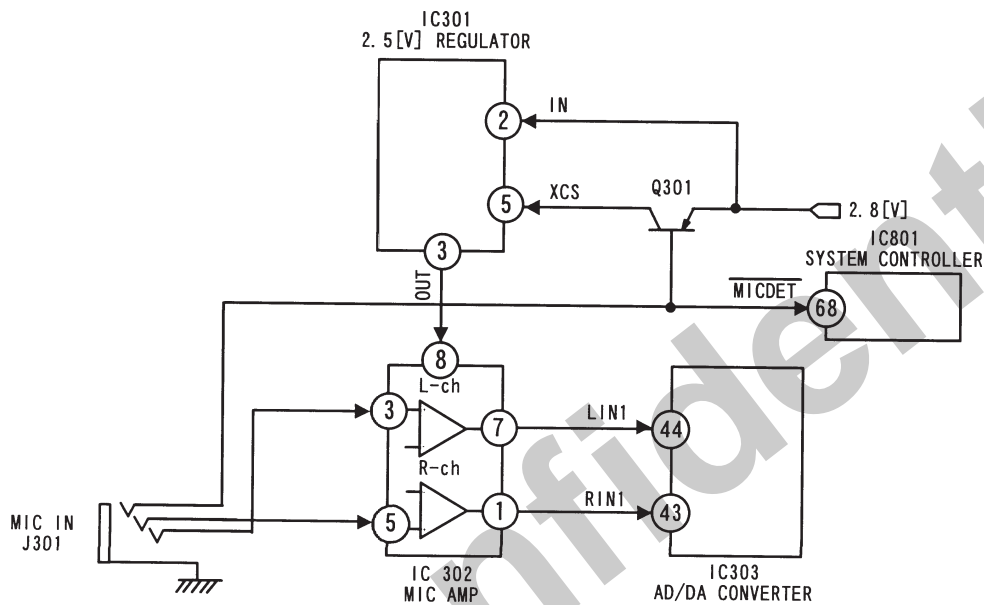

Fig. 5-6 Generation of microphone amplifier IC302 drive voltage
Fig. 5-6 shows block diagram to generate the microphone amplifier IC302 drive voltage. When microphone plug is connected to the MIC jack as shown, input to the system controller IC801 pin^{⑥⑧} [MICDET] goes to “L”. Q301 is turned “ON” by this “L” signal. Then 2.8 V is supplied to the 2.5 V regulator IC301 pin^⑤ [XCE] that starts up IC301. When IC301 starts, 2.5 V is generated by internal series regulator and is output from pin^③ [OUT] that activates the microphone amplifier IC302.